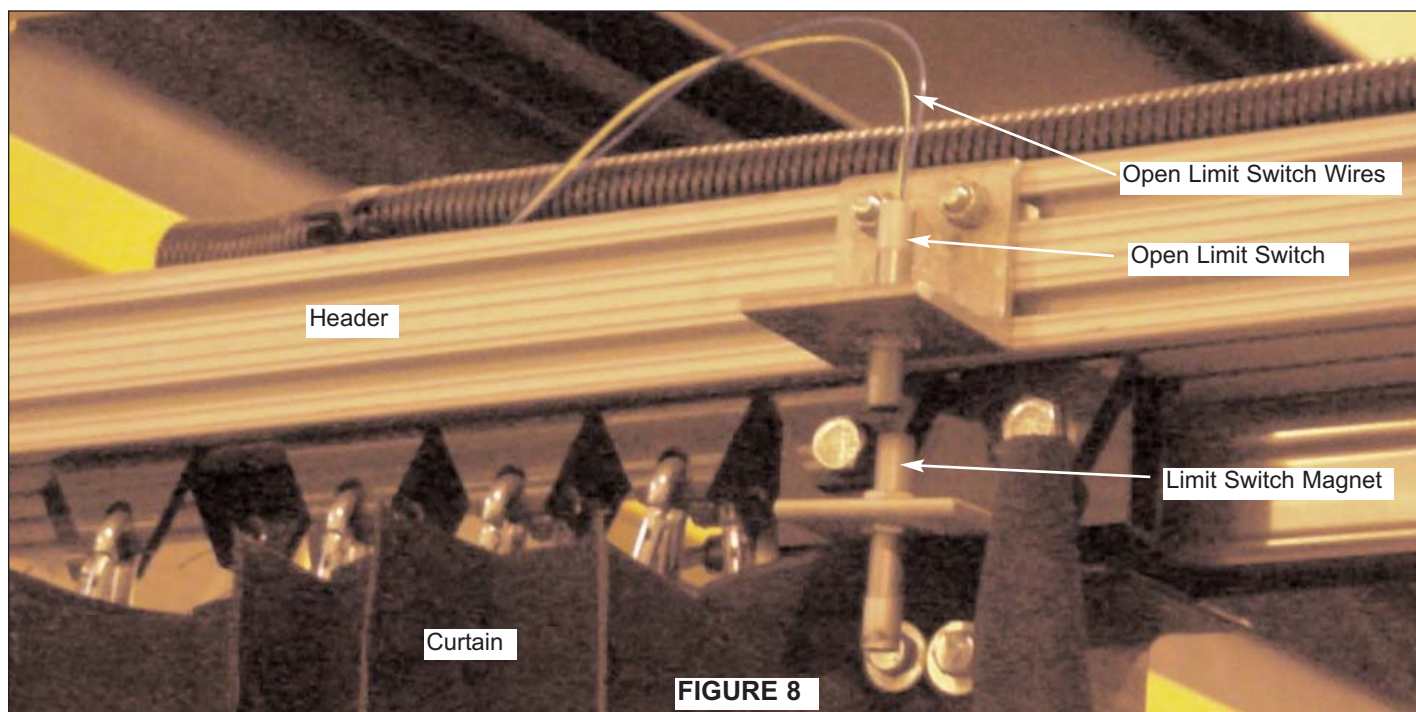

FIGURE 8
5. For adjusting the open limit switch see Figure 8.